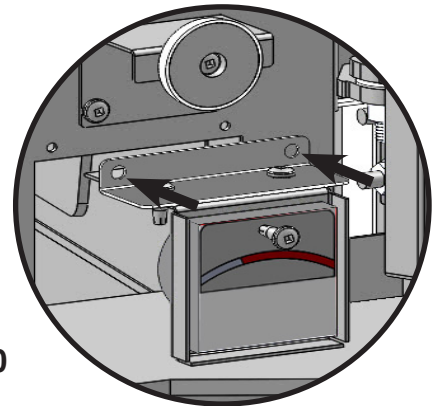

Fig. 10
3. Fasten the catalytic thermometer to the rear shroud with the x2 screws supplied. (Fig. 10)